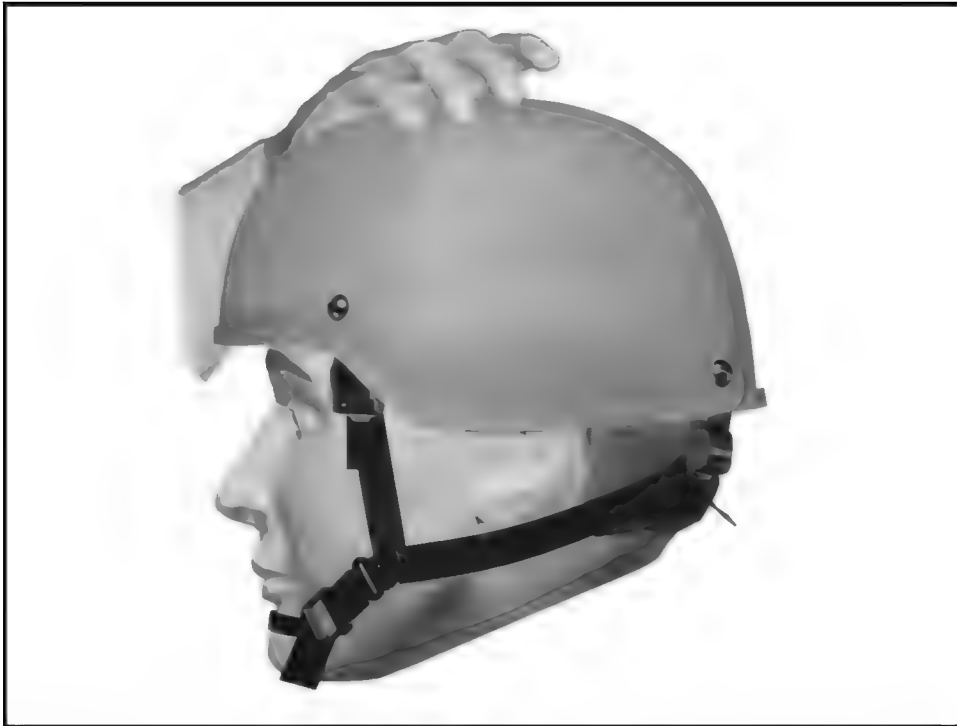

Figure 2-16. ACH held in place for initial adjustment.
- (2) **Step 2.** Position the helmet on the head and hold in place with one hand on top of the helmet for initial adjustment (Figure 2-16, page 2-24).